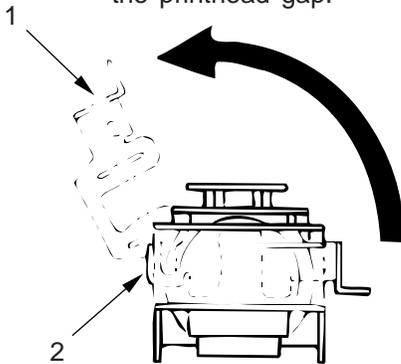

Figure 3.3.1
- (1) Open the access cover.
- (2) Pull up and rotate the head clamp 1 to unclamp the printhead 2 as shown in fig. 3.3.1.
- (3) Disconnect the printhead 2 from PC connector 3 and remove.
- (4) To install, reverse the removal steps.